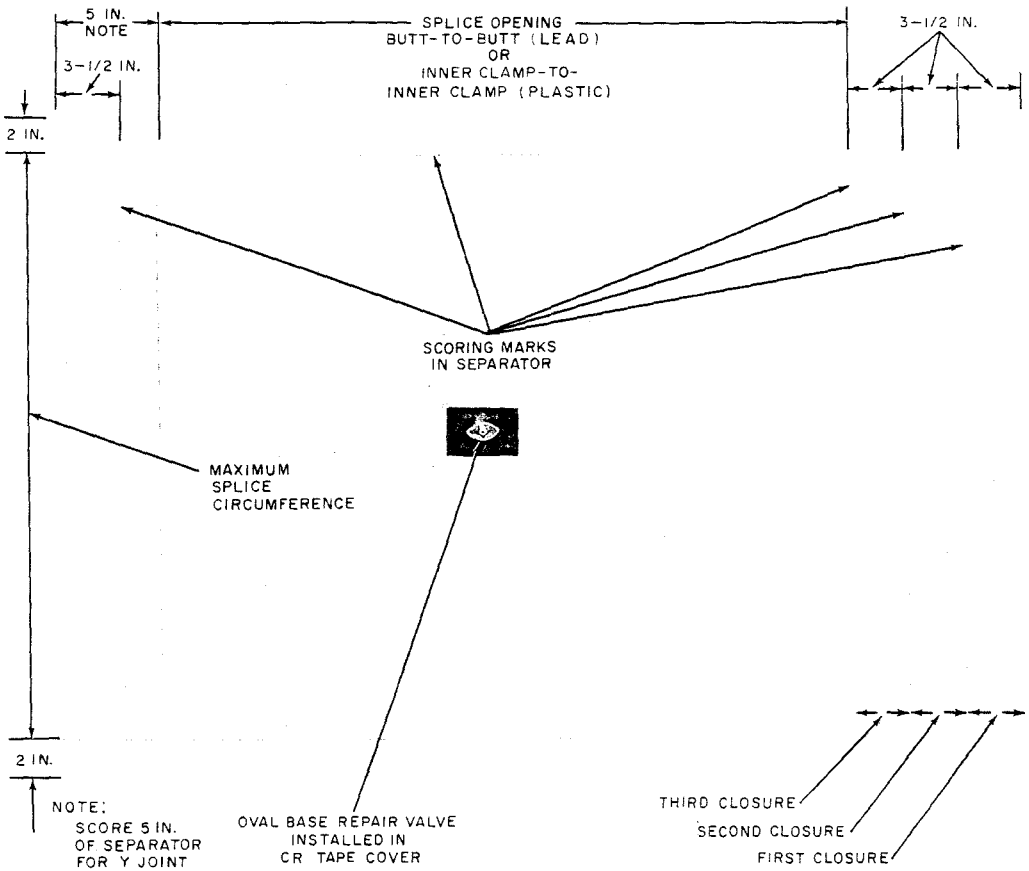

Fig. 1—Scoring CR Tape Separator
2.05 If the CR tape cover is to be used only once, score the separator with splicing scissors as shown in Fig. 1. Score additional 3-1/2 inch strips as necessary for second and third reuse of the cover. **Do not remove the separator** until the CR tape is in place over the splice. The purpose of scoring the separator is to facilitate its removal after the tape cover is placed over the splice opening.
8.01 If a splice containing at least one non-Y-joint is to be covered more than one time before it is permanently closed, it is possible to reuse the CR tape by adding 3-1/2 inches to the single use length for each time the cover is to be opened. All operations are identical to those used for single closings and include the placing of the crotch saddle at any Y-joint. The only two changes from single use are: the separator should be scored 3-1/2 inches for each opening (Fig. 1), and the location of the B sealing tape on the single cable side of the splice. Use new B sealing tape each time the CR cover is opened and closed.